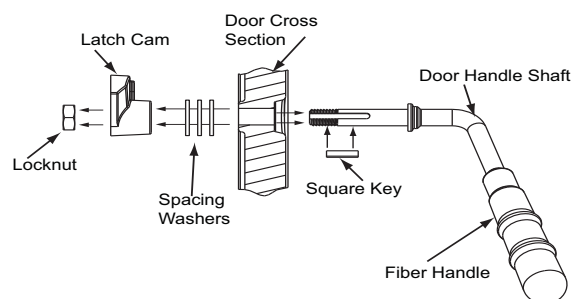

Figure 23.2
2. Install additional washer(s) as shown in **Figure 23.2**.
6. Install fiber handle (**Figure 23.2**).